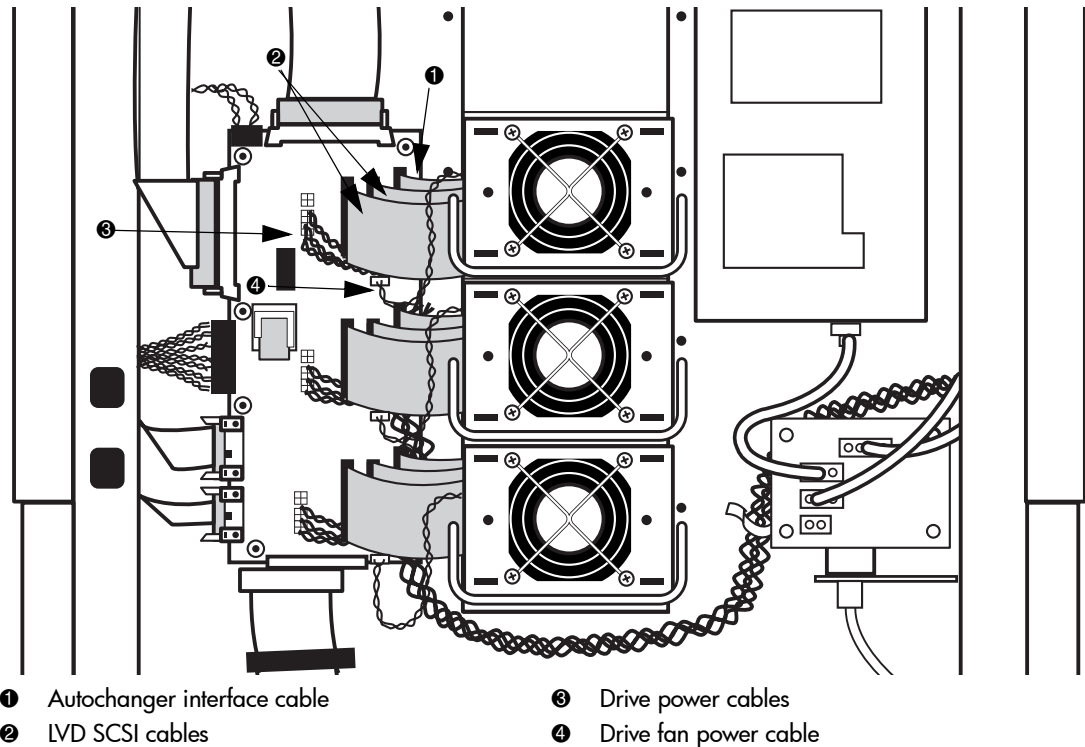

Figure 12: Cable connections for a drive to an interposer board
7. For each drive, connect the drive cables to the interposer board (see Figure 12).
6. Connect the drive cables to the interposer board (see Figure 12, page 32).